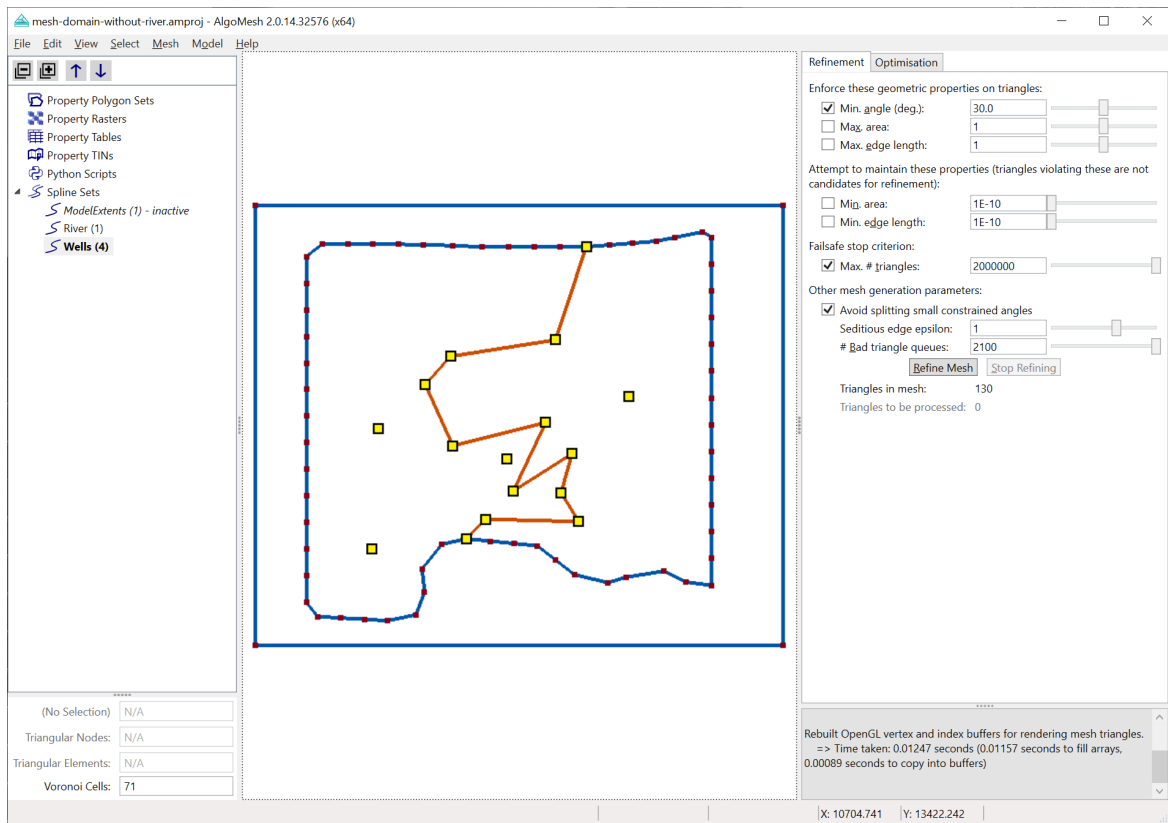

Figure 61: The wells that were manually added to the Wells spline set are shown in their respective locations around the river.
- Now **create a few wells** in the model by **Ctrl-clicking** once for each well. Create at least four wells as shown in Figure 61.